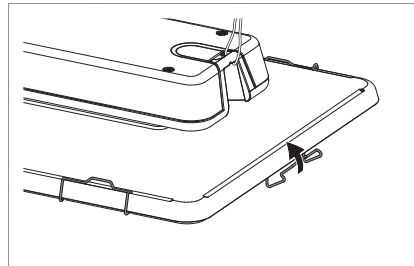

Fig. 14: Fastening the safety glass.
- ▶ Fasten the safety glass to the luminaire by folding all six holding clamps upwards, see Fig. 14.